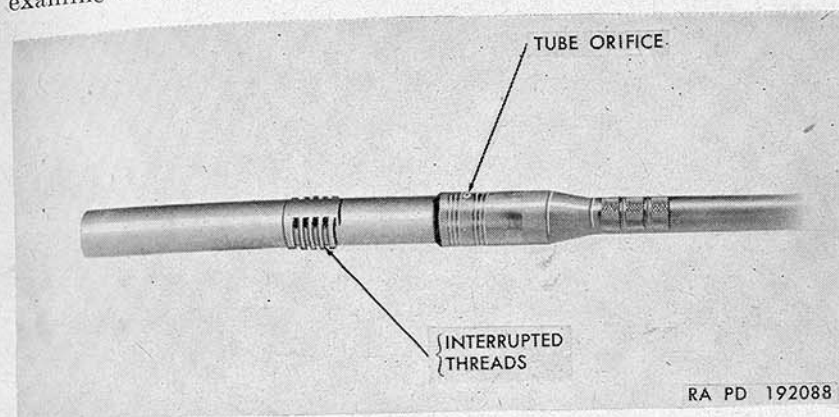

Figure 48. Tube orifice and interrupted threads of barrel assembly.
f. Check the interrupted threads (fig. 48) for burrs. Remove burrs with crocus cloth or fine oilstone. Burred threads will hamper installation of barrel assembly in drum cradle.